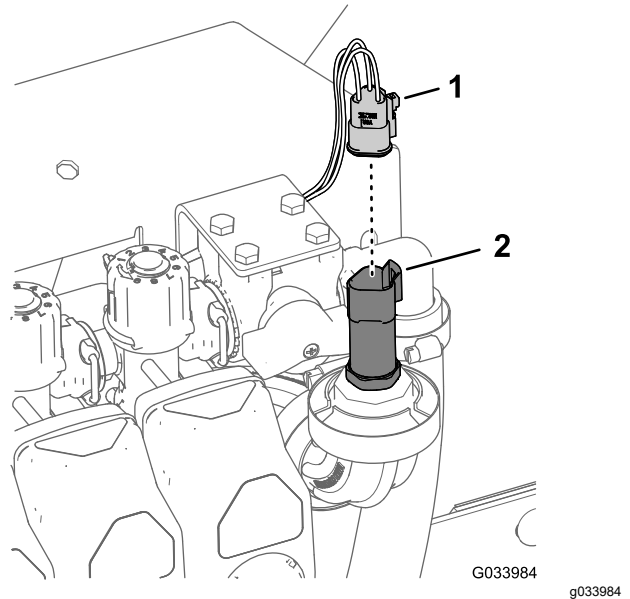

Figure 25
1. Disconnect the 3-socket connector for the pressure transducer (Figure 25).